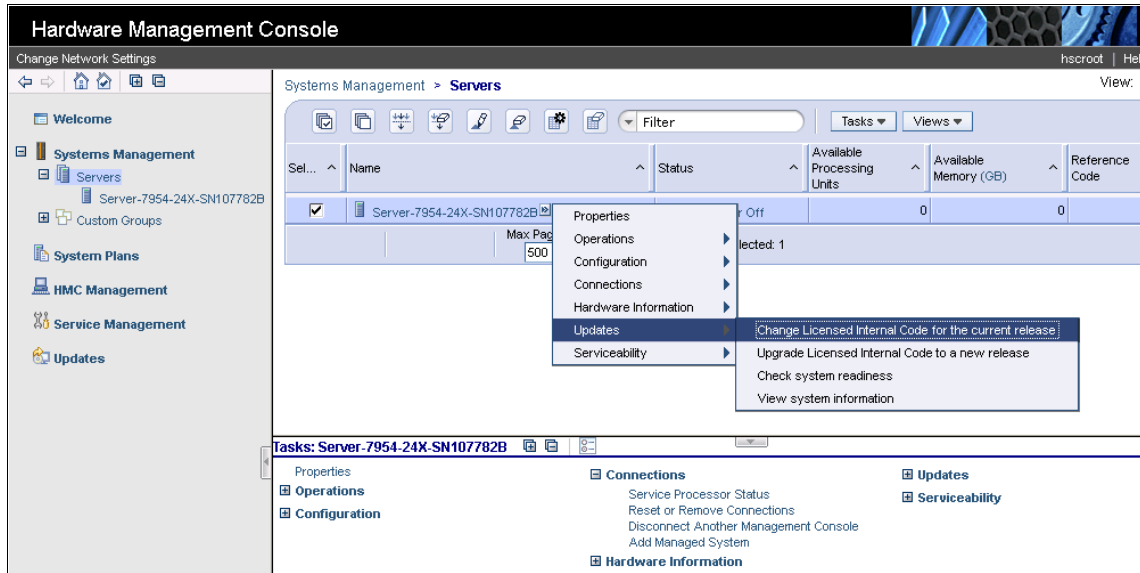

Figure 7-118 HMC update of the current system software version
2. Click **Now Visible** and then click **Updates** → **Change License Internal Code for the current release**, as shown in Figure 7-118. The option updates the system firmware to a new service pack within the same release.